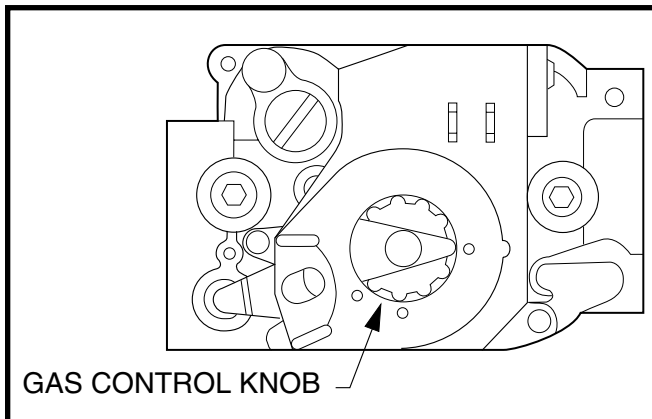
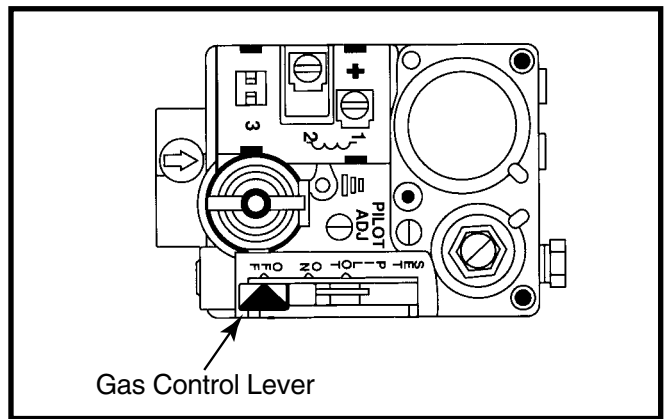

Figure 30. Direct Ignition Gas Valve - Honeywell
Figure 31. Direct Ignition Gas Valve - Robertshaw
- **Honeywell**: push in and turn the gas control knob clockwise to **OFF**. See Figure 30.
- **Robertshaw**: push the gas control lever (**Do not force!**) to the **OFF** position. See Figure 31.
4. Wait ten (10) minutes to clear out any gas. If you smell gas, **STOP!** and follow the Safety Information on page 21. If you do not smell gas, proceed to next step 5.
- **Honeywell**: push in and turn gas control knob counter-clockwise to **ON** (Figure 30).
- **Robertshaw**: push the gas control lever to the **ON** position (Figure 31). **Do not force!**
- **Honeywell** (Figure 30): Turn gas control knob clockwise to **OFF**, **Robertshaw** (Figure 31): Push the gas control lever to **OFF**.
- **Honeywell**: push in and turn the gas control knob clockwise to the OFF position (Figure 30).
- **Robertshaw**: push the gas control lever to the OFF position (Figure 31).